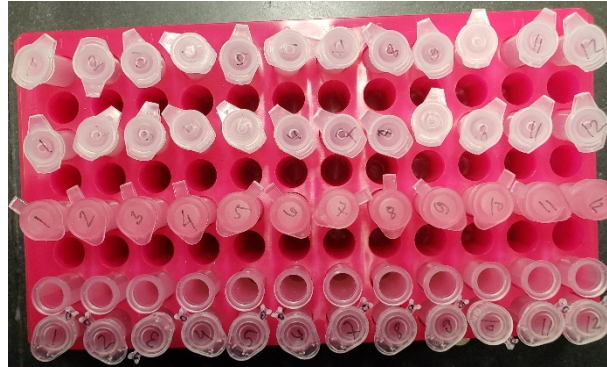

Figure 1: Tube layout on a tube rack.
6. Prepare a working rack with pre labeled tubes as illustrated in **Figure 1**.